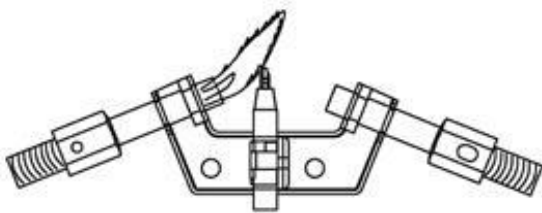

Figure 27 -Correct Pilot Flame Pattern
2. Inspect pilot flame and refer to Figure 27 and 28.
- Figure 27 shows a correct pilot flame pattern.